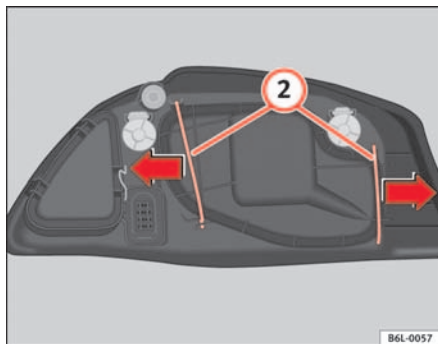

Fig. 152 Main beam lamp
- Remove the loops (2) ⇒ fig. 152 outwards in the direction of the arrow and remove the cover.
- Fit the plastic cover and replace the loops (2) ⇒ fig. 152.